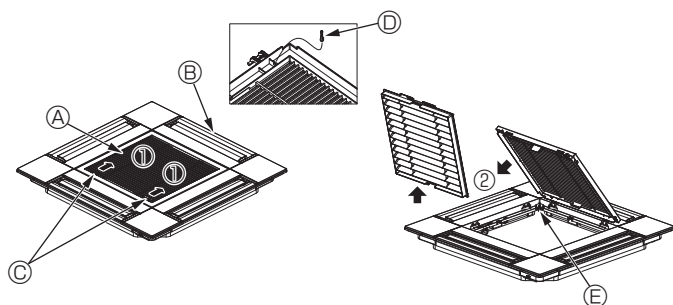
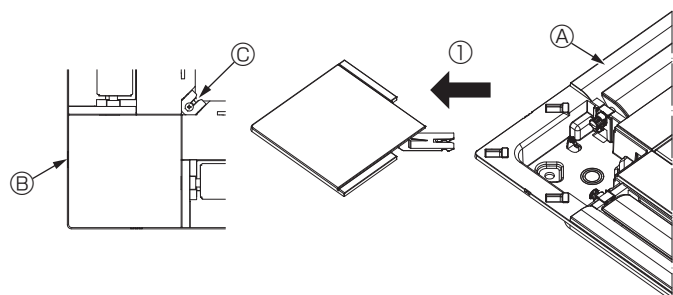

Fig. 5-3
Fig. 5-4
5.2.1. Removing the intake grille (Fig. 5-3)
- Slide the levers in the direction indicated by the arrow ① to open the intake grille.
- With the intake grille in the "open" position, remove the hinge of the intake grille from the grille as indicated by the arrow ②.
- ① Intake grille
- ② Grille
- ③ Intake grille levers
5.2.2. Removing the corner panel (Fig. 5-4)
- Remove the screw from the corner of the corner panel. Slide the corner panel as indicated by the arrow ① to remove the corner panel.
- ① Grille
- ② Grille hook
- ③ Corner panel
- ④ Hole for the grille's hook
- ⑤ Screw